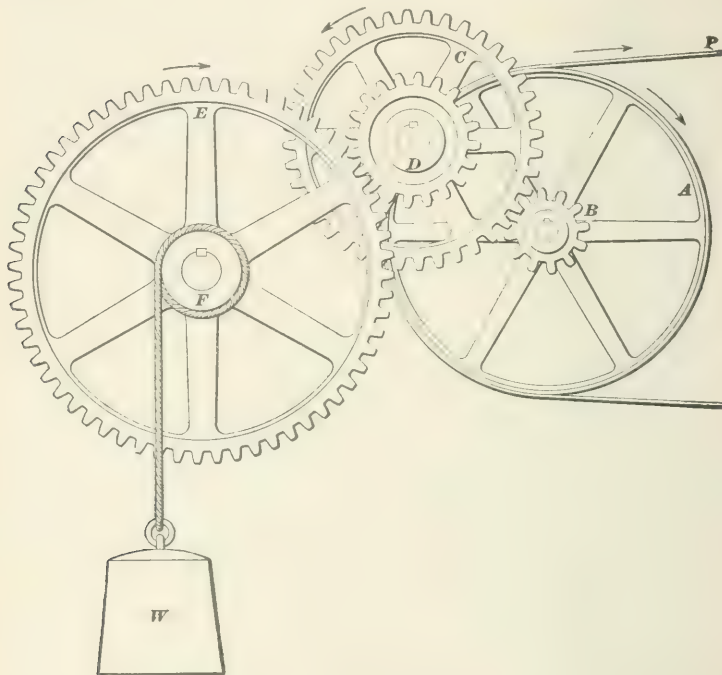

FIG. 19.
39. A combination of wheels and axles, as in Fig. 19, is called a train. The wheel in a train to which motion is imparted from a wheel on another shaft, by such means as a belt or gearing, is called the **driven wheel** or **follower**; the wheel that imparts the motion is called the **driver**.
EXAMPLE.—If the radius of the pulley *A*, Fig. 19, is 20 inches, of *C* 15 inches, and of *E* 24 inches, and the radius of the drum *F* is 4 inches, of the pinion *D* 5 inches, and of the pinion *B* 4 inches, how great a weight will a force of 1 pound applied at *P* raise?
EXAMPLE.—The radius of the pulley A , Fig. 19, is 40 inches and that of F is 12 inches. The number of teeth in B is 9, in C 27, in D 12, and in E 36. If the weight to be lifted is 1,800 pounds, how great a force at P is it necessary to apply to the belt?